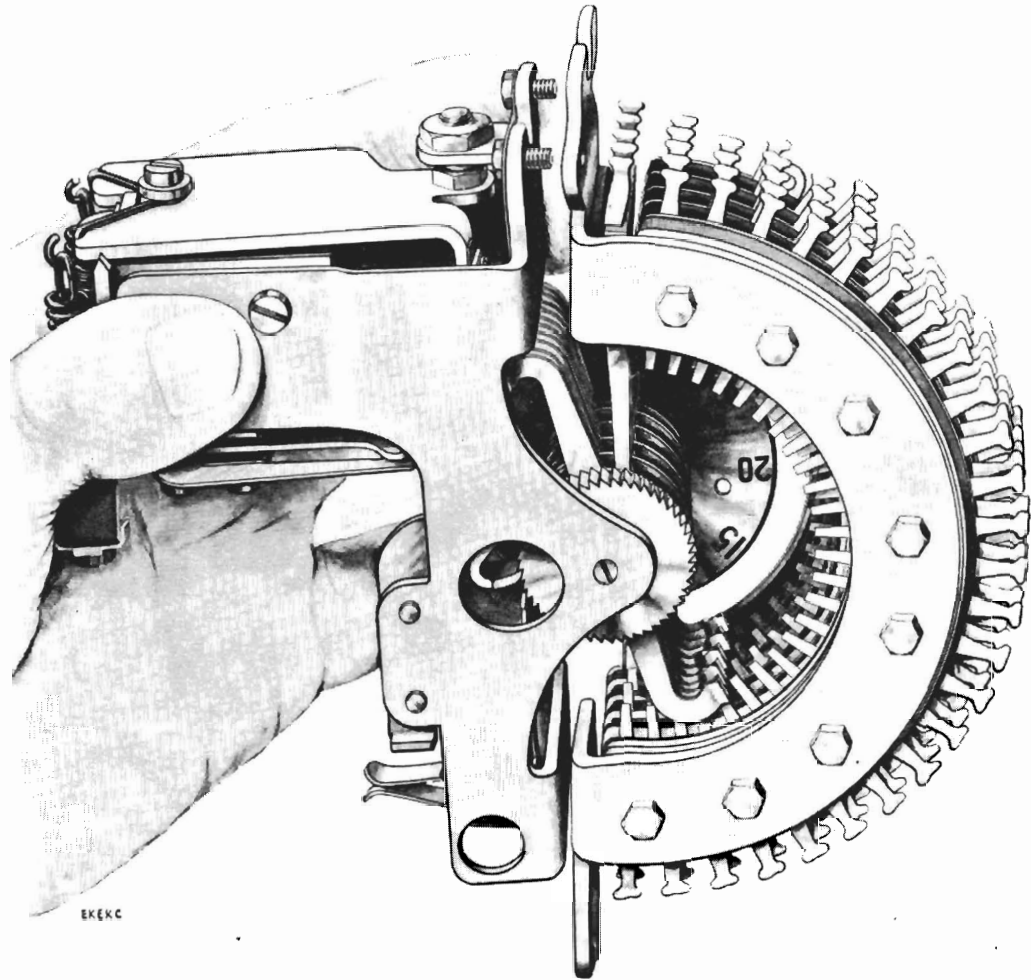

FIG. 3.—REMOVING THE MECHANISM FROM THE BANK
4. Removing mechanism from bank.—To avoid any possibility of the wipers fouling the bank and brushes, set the wipers on the lower half of the bank, between contacts 15 and 25. Then withdraw the two top mechanism-securing screws; grip the mechanism with one hand; remove the bottom securing-screw with the other hand, and withdraw the mechanism (see Fig. 3).